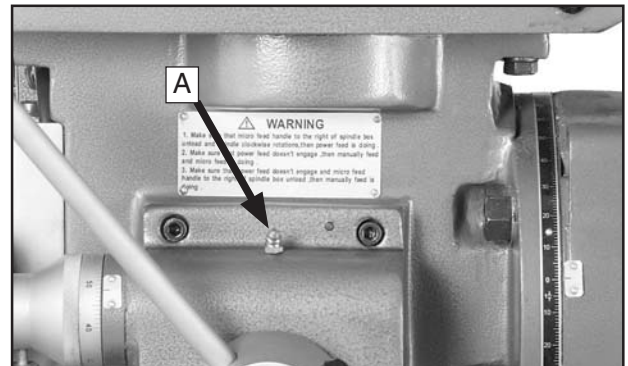

Figure 61. Downfeed gear grease fitting on right side of headstock.
2. Refer to **Figures 61–64** to identify each of the five grease fittings.
Right Side of Model G0615 (Figures 61–62):